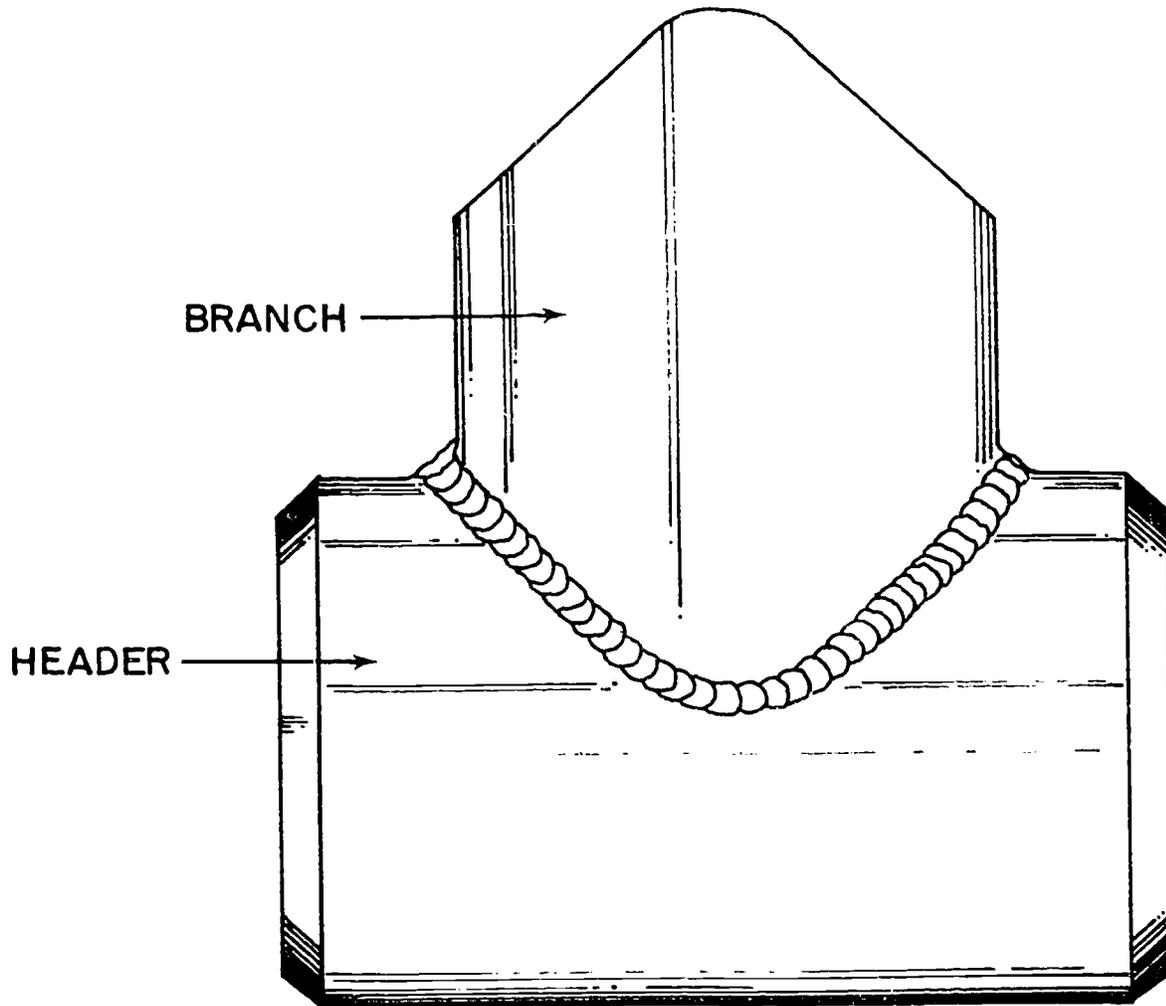

Figure 7-17. Stainless steel tee joint.
Tee Joints. Tee welds must be fitted up carefully. The edges must be thoroughly cleaned and all burrs removed to prevent unequal spacing around the joint. The edges should fit snugly and should be evenly spaced to allow for proper penetration and to prevent burn through. Tilt the torch head slightly toward the root of the joint and in the direction of travel. Take particular care to insure that penetration at the root of the weld is 15 to 85 percent of the pipe wall thickness (T). The reinforcement should not exceed the thickness of the pipe wall. The contour of the bead should be slightly convex. The weld metal should taper smoothly into each pipe with no overlap, and the width of the bead should be from 2 to 3 times the wall thickness. The surface appearance should be dark bronze or light purple. A completed tee joint is shown in figure 7-17.